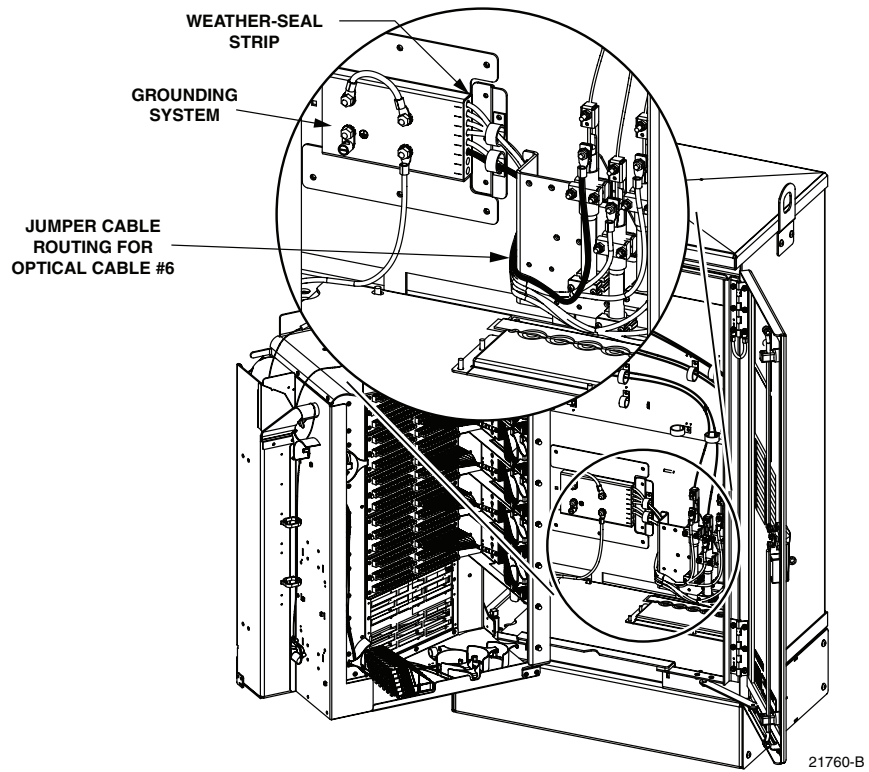

Figure 22. Cable Grounding System - Interior View
13. Locate the weather-seal strip attached to the right side of the cabinet grounding system as shown in Figure 22.